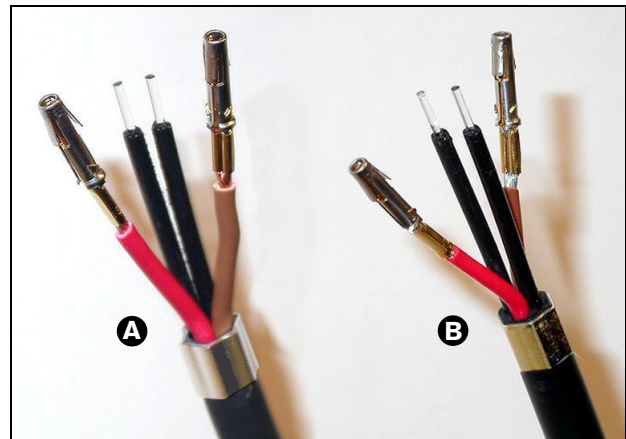

figure 22.20: Stripped optical fibers
- 18 Repeat steps 16 and 17 for the other fiber in the cable. See figure 22.20 for the result of this part of the cable-connector installation procedure.